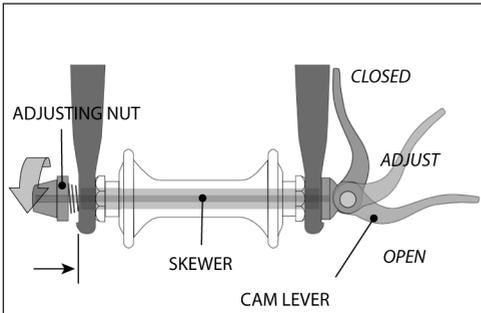
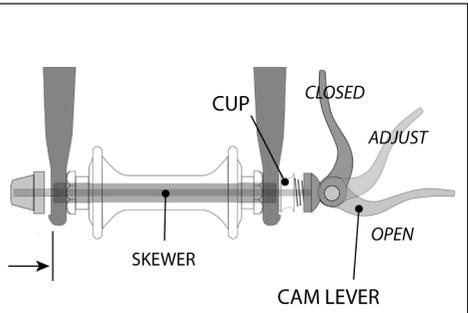
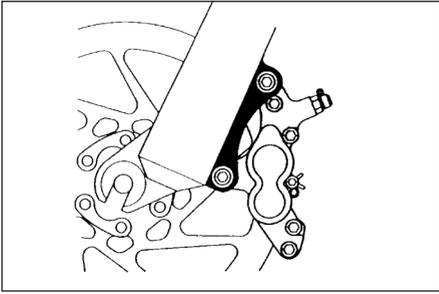
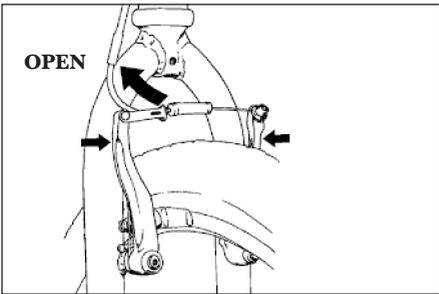

FIGURE 8a
FIGURE 8b
Figure 11.
Figure 12.
- A hollow axle with a shaft (“skewer”) running through it which has an adjustable tension nut on one end and an over-center cam on the other (cam action system, fig:8a & 8b).
There are currently two types of over-center cam wheel retention mechanisms: the traditional over-center cam (fig. 8a) and the cam-and-cup system (fig. 8b). Both use an over-center cam action to clamp the bike's wheel in place. Your bicycle may have a cam-and-cup front wheel retention system and a traditional rear wheel cam action system.
a. Adjusting the traditional cam action mechanism (fig. 8a)
b. Adjusting the cam-and-cup mechanism (fig. 8b)
- (1) If your bike has rim brakes, disengage the brake's quick-release mechanism to increase the clearance between the tire and the brake pads (See Section 4.C fig. 11 through 15).
- (2) If your bike has cam action front wheel retention, move the cam lever from the locked or CLOSED position to the OPEN position (figs. 8a & b). If your bike has through bolt or bolt-on front wheel retention, loosen the fastener(s) a few turns counter-clockwise using an appropriate wrench, lock key or the integral lever.
- (3) If your front fork has a clip-on type secondary retention device, disengage it. If your front fork has an integral secondary retention device, and a traditional cam action system (fig. 8a) loosen the tension adjusting nut enough to allow removing the wheel from the dropouts. If your front wheel uses a cam-and-cup system, (fig. 8b) squeeze the cup and cam lever together while removing the wheel. No rotation of any part is necessary with the cam-and-cup system.
- (1) If your bike has cam action front wheel retention, move the cam lever so that it curves away from the wheel (fig. 8b). This is the OPEN position. If your bike has through bolt or bolt-on front wheel retention, go to the next step.
- (2) With the steering fork facing forward, insert the wheel between the fork blades so that the axle seats firmly at the top of the fork dropouts. The cam lever, if there is one, should be on rider's left side of the bicycle (fig. 8a & b). If your bike has a clip-on type secondary retention device, engage it.
- (3) If you have a traditional cam action mechanism: holding the cam lever in the ADJUST position with your right hand, tighten the tension adjusting nut with your left hand until it is finger tight against the fork dropout (fig. 8a). If you have a cam-and-cup system: the nut and cup (fig. 8b) will have snapped into the recessed area of the fork dropouts and no adjustment should be required.
- (4) While pushing the wheel firmly to the top of the slots in the fork dropouts, and at the same time centering the wheel rim in the fork:
- (a) With a cam action system, move the cam lever upwards and swing it into the CLOSED position (fig. 8a & b). The lever should now be parallel to the fork blade and curved toward the wheel. To apply enough clamping force, you should have to wrap your fingers around the fork blade for leverage, and the lever should leave a clear imprint in the palm of your hand.
- (2) If your bike has rim brakes, disengage the brake's quick-release mechanism to increase the clearance between the wheel rim and the brake pads (see Section 4.C, figs. 11 through 15).
- (3) On a derailleur gear system, pull the derailleur body back with your right hand.
- (4) With a cam action mechanism, move the quick-release lever to the OPEN position (fig. 8b). With a through bolt or bolt on mechanism, loosen the fastener(s) with an appropriate wrench, lock lever or integral lever; then push the wheel forward far enough to be able to remove the chain from the rear sprocket.
- (5) Lift the rear wheel off the ground a few inches and remove it from the rear dropouts.
Some bikes are equipped with a cam action seat post binder. The seat post cam action binder works exactly like the traditional wheel cam action fastener (Section 4.A.2) While a cam action binder looks like a long bolt with a lever on one end and a nut on the other, the binder uses an over-center cam action to firmly clamp the seat post (see fig. 8a).
3. Some bicycle brakes, such as disc brakes (fig. 11) and linear-pull brakes (fig. 12), are extremely powerful. Take extra care in becoming familiar with these brakes and exercise particular care when using them.
Most rim brakes have some form of quick-release mechanism to allow the brake pads to clear the tire when a wheel is removed or reinstalled. When the brake quick release is in the open position, the brakes are inoperative. Ask your dealer to make sure that you understand the way the brake quick release works on your bike (see figs. 12, 13, 14 & 15) and check each time to make sure both brakes work correctly before you get on the bike.